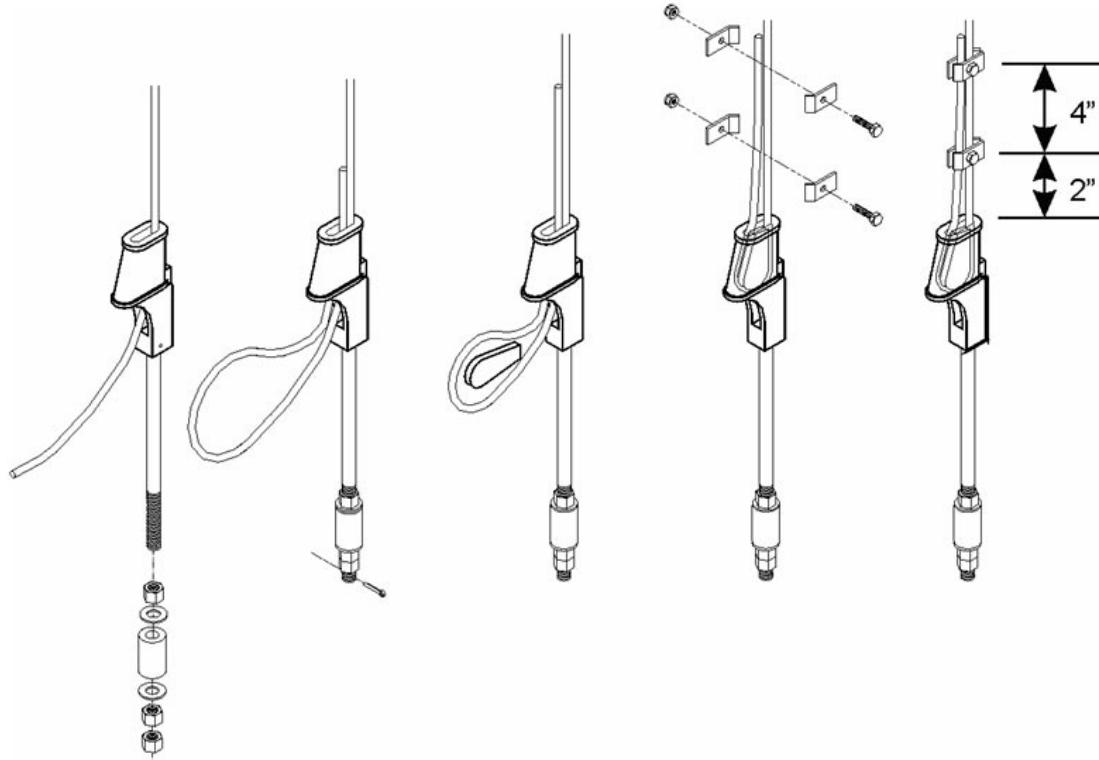

Figure 54 Wedge Clamp Procedure
- 1) Attach the threaded rod of the wedge clamp to the rope tie down bracket located in the pit channel (Figures 54 to 56).